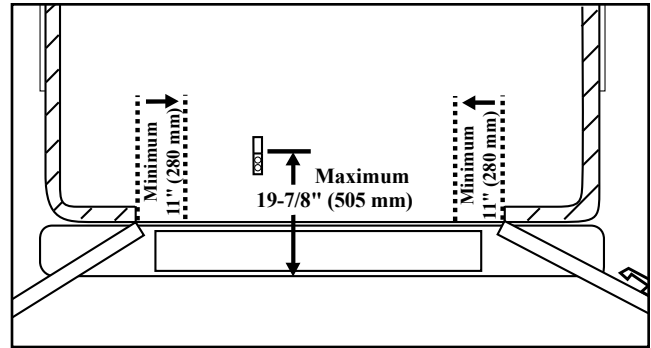

Figure 3 - Safety Hook Placement
- Position the safety hook at least 11 inches (279 mm) from both sides of the door frame (Figure 3) so the cot safety bar will engage the hook when the cot is loaded or unloaded.